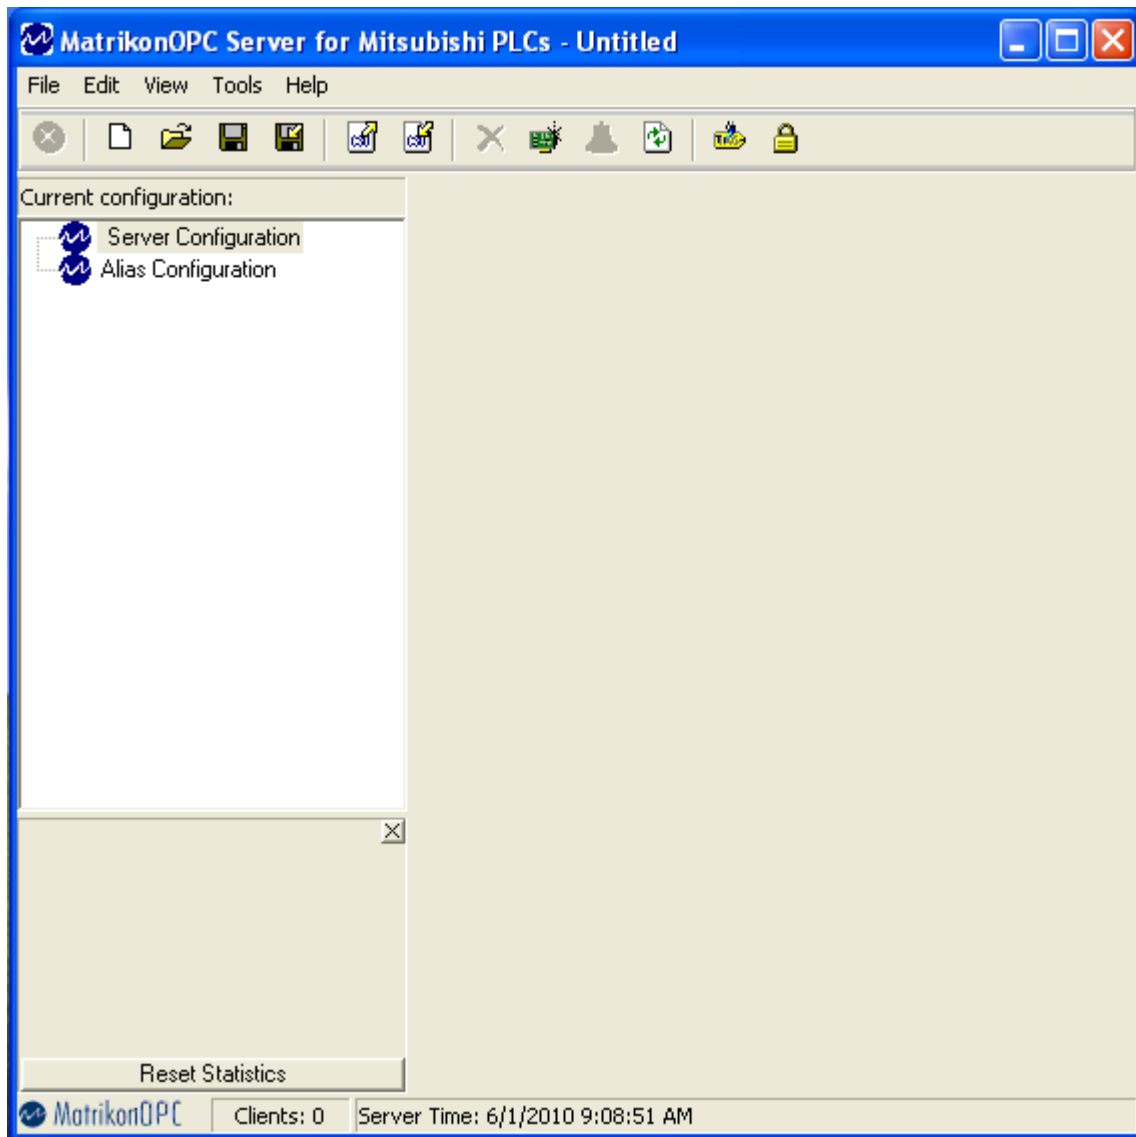

Figure 11 - Configuration Window
2. The **Configuration** window (Figure 11) appears.